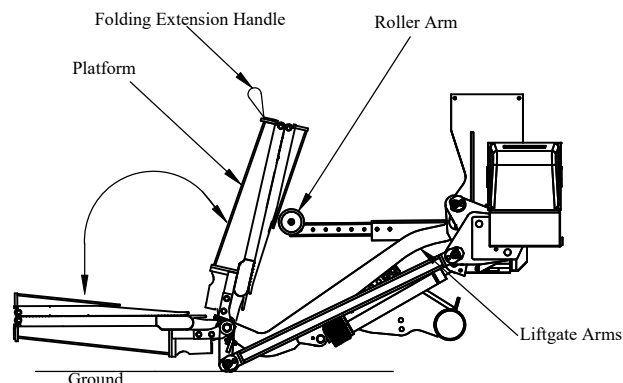

Figure 39: Step 10.
11. With the liftgate arms touching the ground, stand to the side of the platform, and fold the platform closed until it rests on the roller arm (Figure 39).